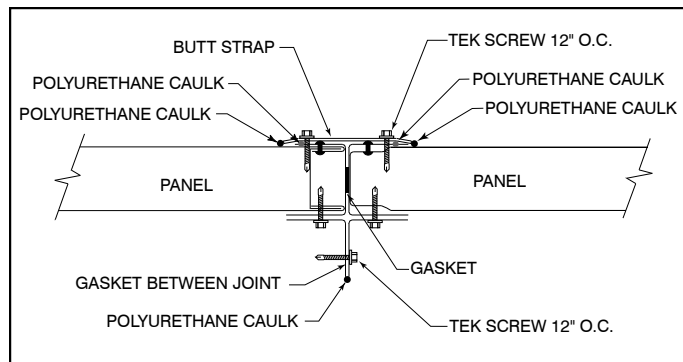

FIGURE 4. Detail of field joint located on side.
- 6) After positioning the module correctly, install continuous gasket material on field joint flange as indicated in **FIGURE 4**.
- 13)** Complete field joint assembly by applying polyurethane caulk to the exterior of the joint and then cover with butt strap as shown in **FIGURE 4**.